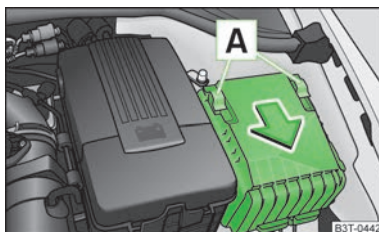

Fig. 185
- ▶ The cover for the fuse box is removed by pushing the circlips  » Fig. 185 upwards as far as the stop. The symbol  is displayed behind the clip. Now remove the cover.